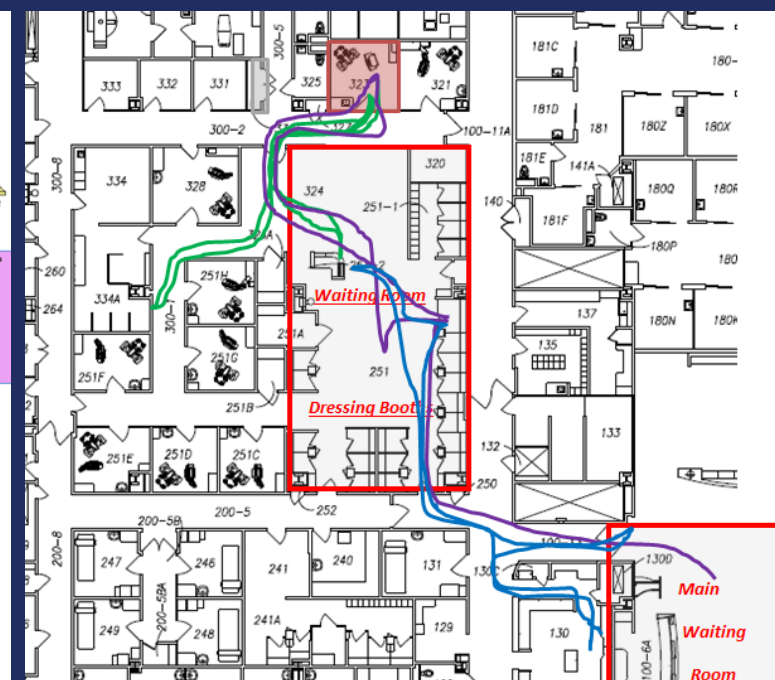
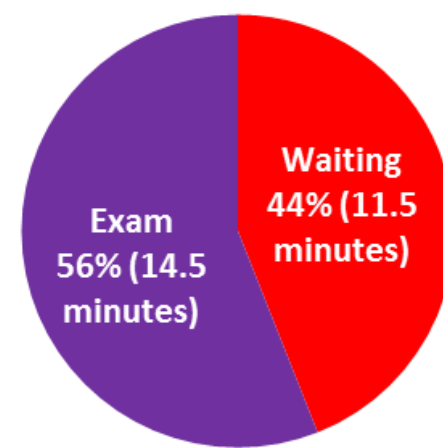

Figure 4
Figure 5
- To get to our future state as shown in the VSM (Figure 5), we performed a total of 9 Plan-Do-Study-Act (PDSA) cycles.
- Some of the significant improvements are shown in Figure 4 (over 50% less waiting) and Figure 5 (focused improvement bursts).